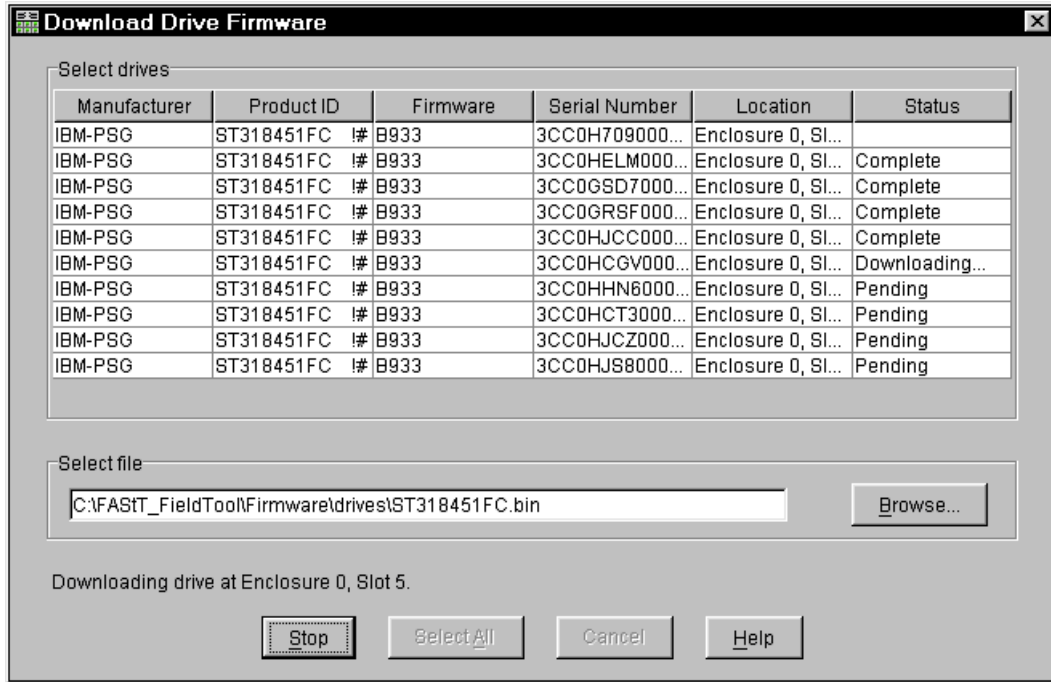

Figure 4-22 Field Tool Select drives to update microcode
3. Highlight all drives of the same Product ID. Click the **Browse** button and choose the correct firmware file. The name of the file must completely match with the model name of the disks you are updating (see Figure 4-22).